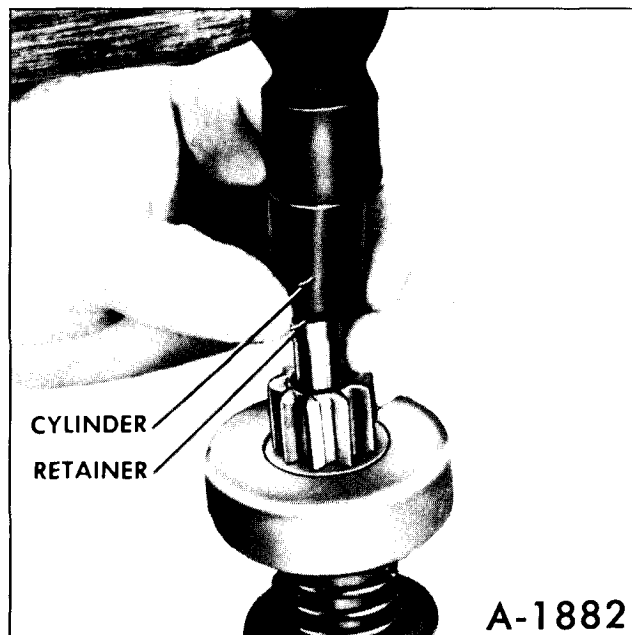

Figure 43-Removing Pinion Retainer
b. Slide a standard half-inch pipe coupling or other metal cylinder of suitable size (an old pinion can be used if available) over shaft against retainer to be used as a driving tool. (figure 43) With armature shaft supported on wood block, tap end of driving tool until retainer clears snap ring.